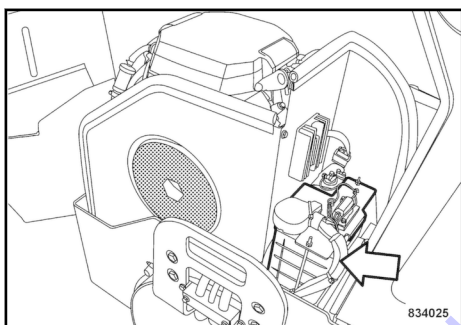

Fig. 79
2. Clean battery  Fig. 79 and battery compartment.